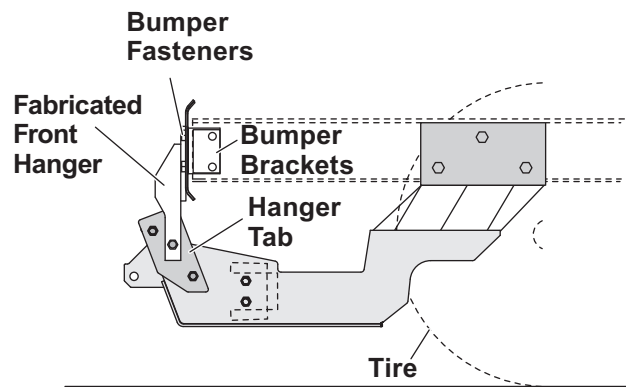

Figure 7
- Fabricate a piece of 1/2" x 3" flat bar to make a connection between the drilled 1/2" x 3" bumper plate and the hanger tab on the pushplate (see Figure 7).